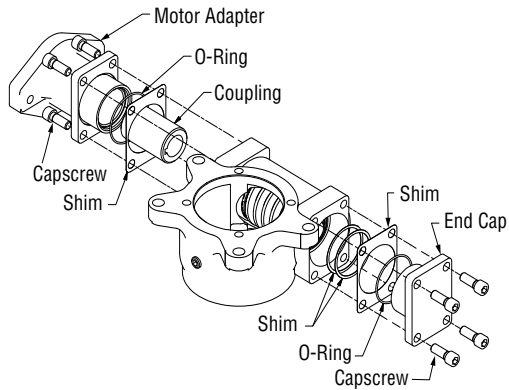

Figure 5-11, End Cap / Motor Adapter
9. Remove the end cap and motor adapter. Make note of any installed shims. Capscrews are installed with Loctite, so use a long handle wrench to break them loose. (Figure 5-11)